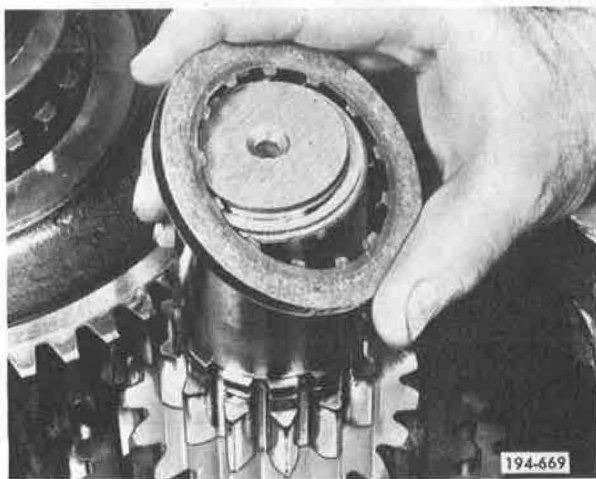

Figure 5-257. Removing Thrust Washers
5. Remove front countershaft selective thrust washers. See Figure 5-257.